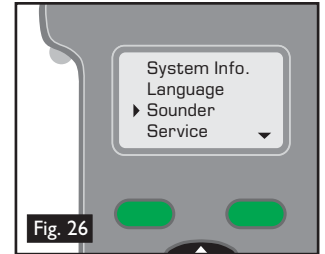
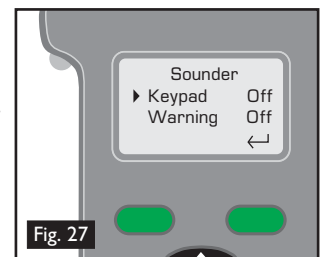

Fig. 26
Fig. 27
- To disable the sound, press the 'MENU' key and using the 'UP' and 'DOWN' keys on the keypad, navigate to 'Sounder' (Fig. 26) and select using the 'ENTER' key . Use the 'ENTER' key also to select 'ON' or 'OFF' for the 'Keypad' and 'Warning' sounds (Fig. 27).